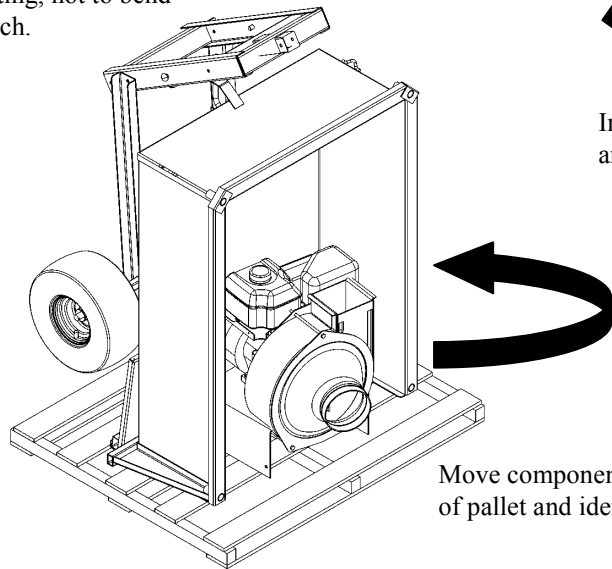

Figure 1
3. Raise front hitch, using caution to prevent latch from being bent. (Figure 1)